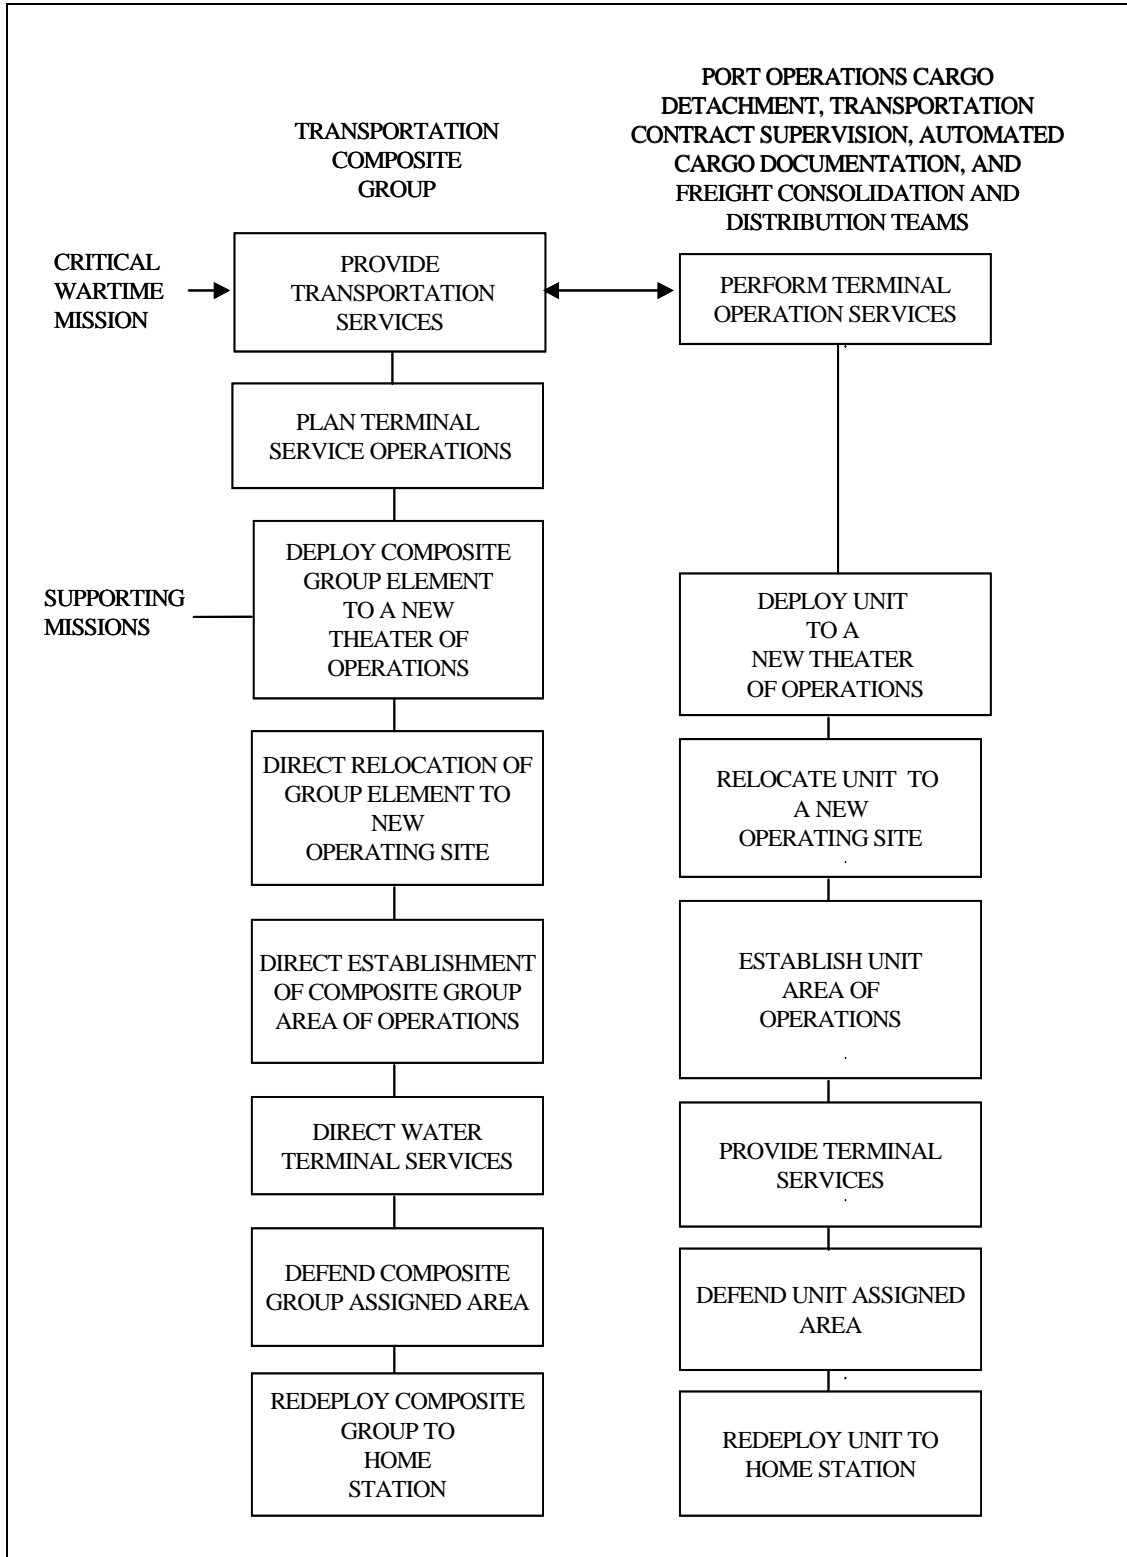

Figure 1-2. Critical Wartime Mission Echelon Relationship Diagram for the Transportation Augmentation Teams
(1) Deploy Unit to a New Theater of Operations.
(2) Relocate Unit to a New Operating Site.
(3) Establish Unit Area of Operations.
(4) Provide Terminal Services (Teams LB, LC, LD, and LF).
(5) Defend Unit Assigned Area.
(6) Redeploy Unit to Home Station.
c. The Critical Wartime Mission Echelon Relationship diagram shows the relationship of this unit's mission to those of the next higher echelon. Figure 1-2 shows the mission relationship of this unit's missions of the transportation augmentation teams.